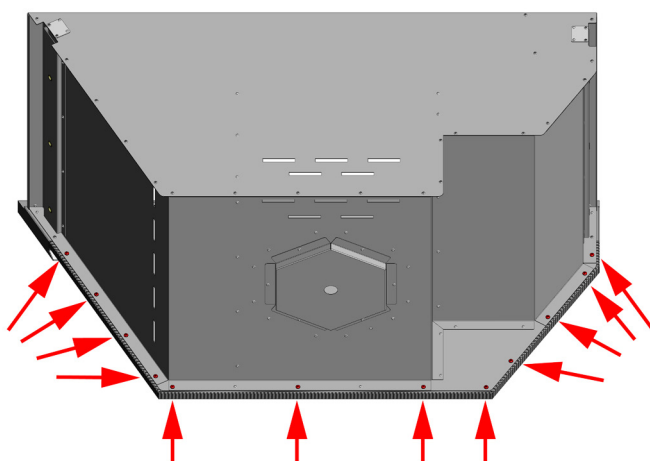
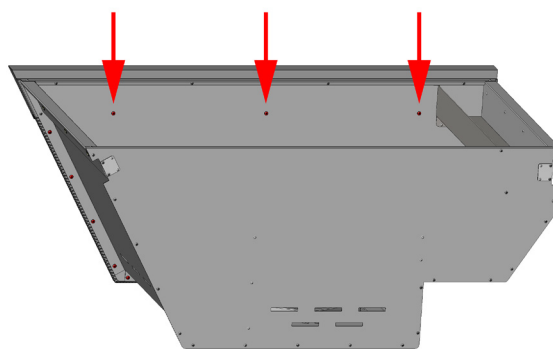

FIG. 9
FIG. 10
9. Lay the drawer face-down on a flat surface with a blanket or towel to protect the finish. Remove the textured panel by removing all screws as shown in Fig. 9. There are 12-14 screws (depending on which model grill you own). There are also 3 screws inside the drawer (Fig 10).